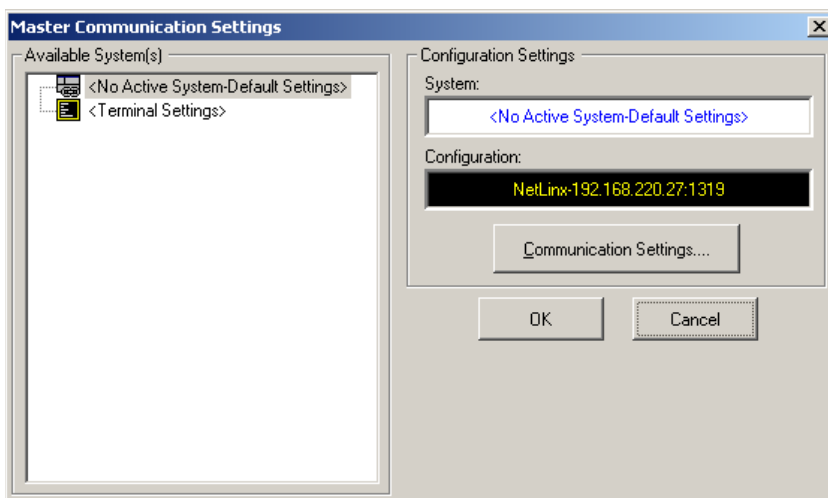

FIG. 42 NetLinx Studio - Master Communication Settings dialog
2. Select **Settings > Master Communication Settings** to open the *Master Communication Settings* dialog (FIG. 42).